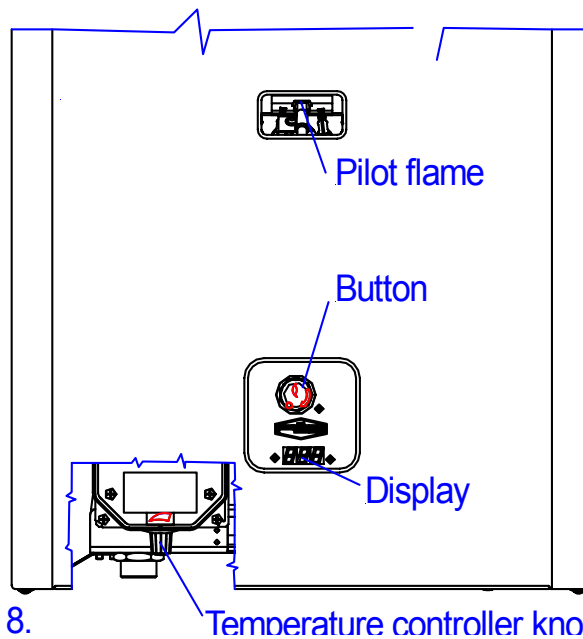

Fig. 8. Temperature controller knob
Push the knob located on the front of the appliance until it butts on (see Fig. 8.).
Decrease of delivery water to 70-75 °C increases the lifetime of boiler and the feeling of comfort. It may be achieved by the adjustment knob of water temperature controller located at the bottom of electric box (Temperature controller knob Fig. 8.).
-By turning the push-button clockwise (see Fig. 8.) the pilot flame and the burner shuts down immediately.